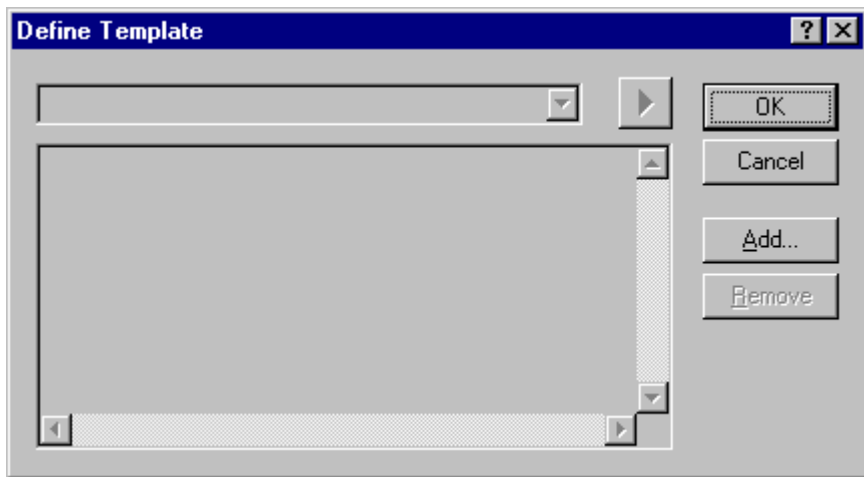

Figure 4.14: Define Template Dialog
1. Select [**Edit->Templates->Define Templates...**], select [**Templates->Define Templates...**] from the local menu, press **CTRL+T** or click on the define template toolbar button (). The dialog shown in * MERGEFORMAT figure 4.14 will be displayed.
1. Select [**Edit->Templates->Define Templates...**], select [**Templates->Define Templates...**] from the local menu, press **CTRL+T** or click on the define template bookmark toolbar button (). The dialog shown in figure 4.14 will be displayed.